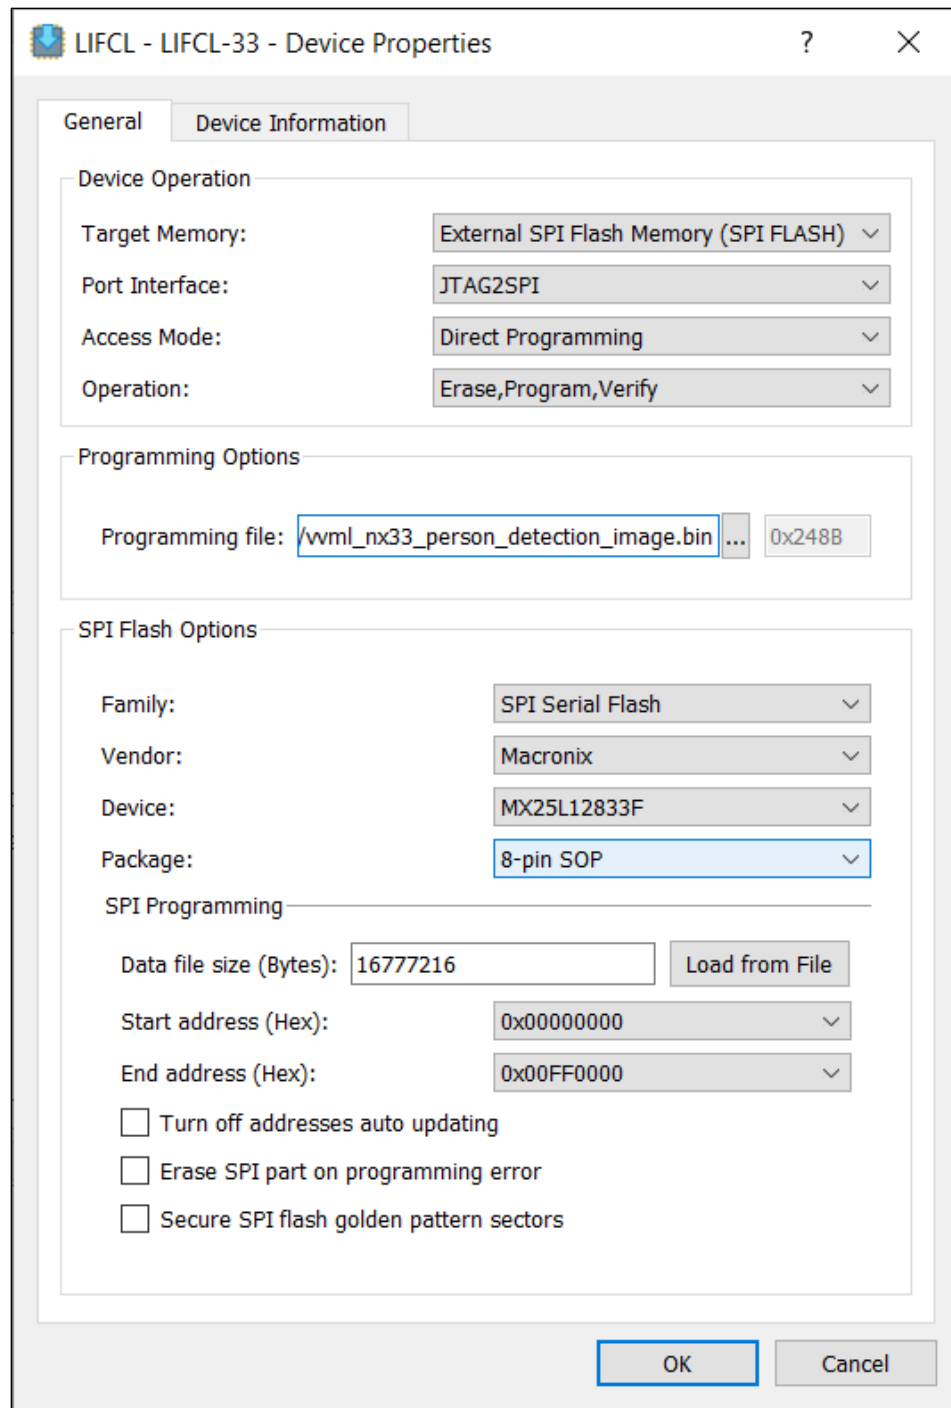

Figure 2.6. Lattice Radiant Programmer Device Properties Window – CrossLink-NX-33 VVML Configuration Done
8. Set **Programming file** to *FPGA_AI_Firmware_HMI_*.bin* as shown in Figure 2.6.